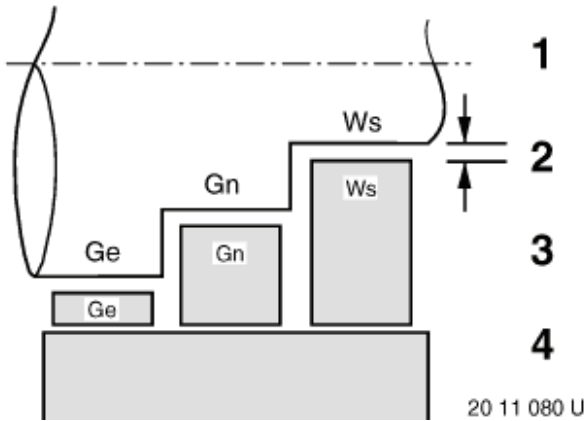
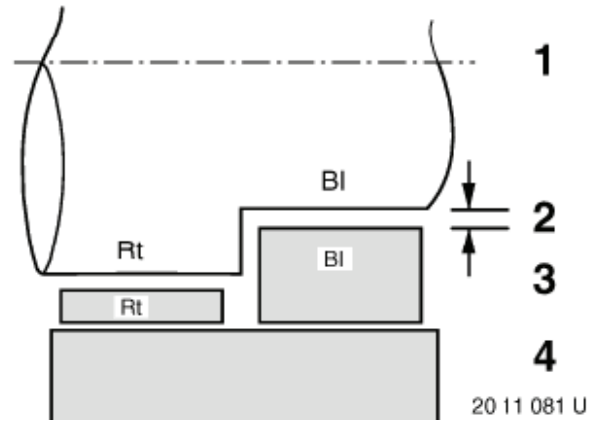

Figure 5-112
Figure 5-113
- Figure 5-112** and **Figure 5-113** show the relationship of each color coding compared to diameter. If necessary, install bearing inserts having a different color coding.